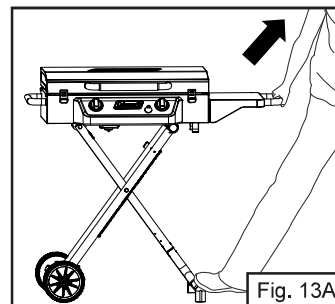
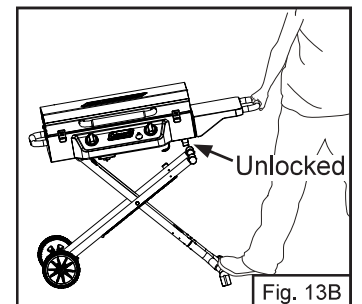

Fig. 13A
Fig. 13B
1. Place one foot on the towing handle, grasp the carry handle, and lift up and toward you (Fig. 13A). The Legs are now unlocked from the Red Hook-Shaped Brackets under the Appliance (Fig. 13B). Allow the appliance to lower (Fig. 13C). The wheels will roll away from you. It is now in the folded or collapsed position. Give the carry handle a gentle push so the legs stay secure. You will now be able to pick up on the tow handle and stand the appliance on its end.